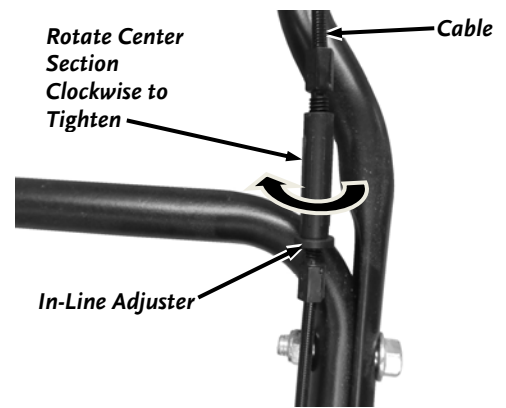

Figure 37
5. Locate the Blade Engage Cable along the left Handlebar. There is an In-Line Adjuster to change the tension on the Cable (**Figure 37**).